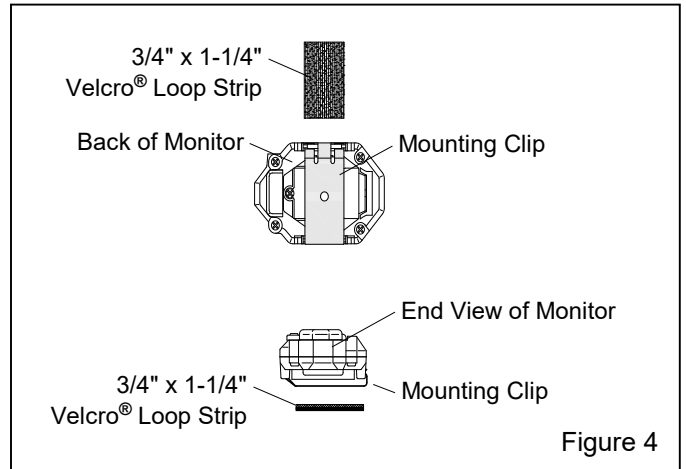

Figure 4
2.1.1.1 Adhere Velcro® loop to CMS-4 mounting clip: Trim the Velcro® loop strip to 3/4" x 1". Remove the backing and adhere it to the bottom of the monitors mounting clip, as shown in Figure 4.